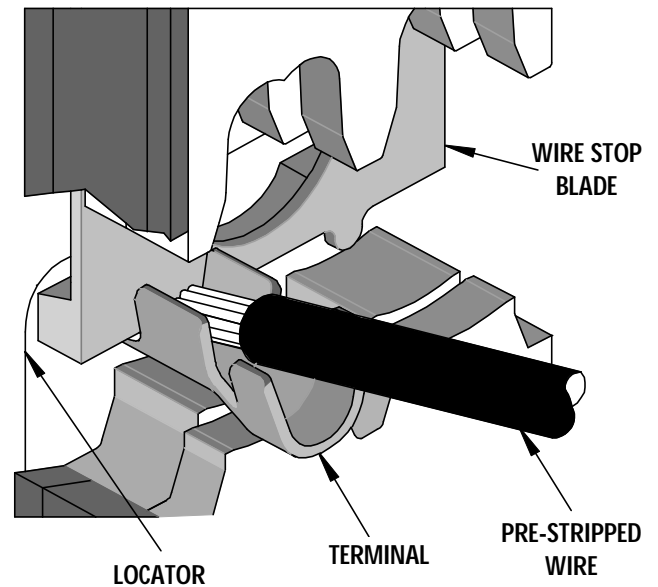
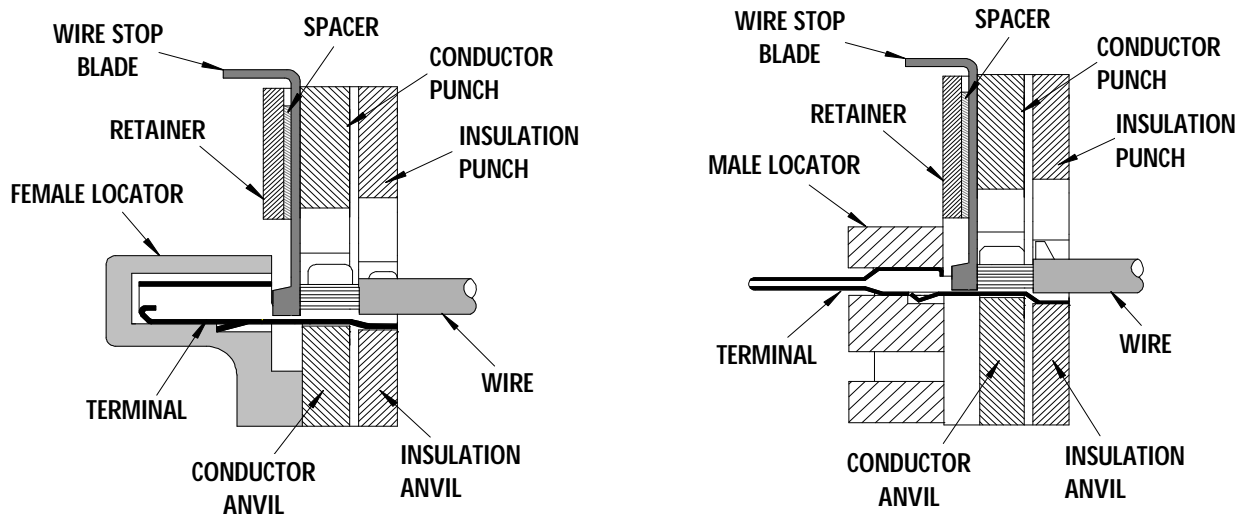

Figure 1
Figure 2
6. Slide the pre-stripped wire into the terminal; make sure to aim the wire brush towards the tip point on the wire stop blade (See Figure 1). Align the wire so that it is parallel and sitting into the terminal. Maintain a light and constant pressure on the wire that is seated in the terminal at all times. (Do not let go of the wire.) Be sure to hold the wire and terminal in place until the terminal is fully crimped. (See Figure 2).